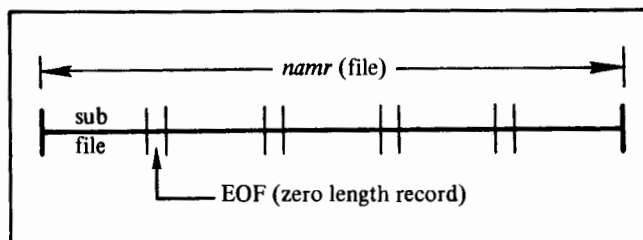

Figure 3-5. Sub-File Example
- #files* indicates the number of files or zero length records to be transferred from *namr1*. This parameter must be greater than 0 if supplied. Default for *#files* is as follows (refer to Figure 3-5 in Comments):